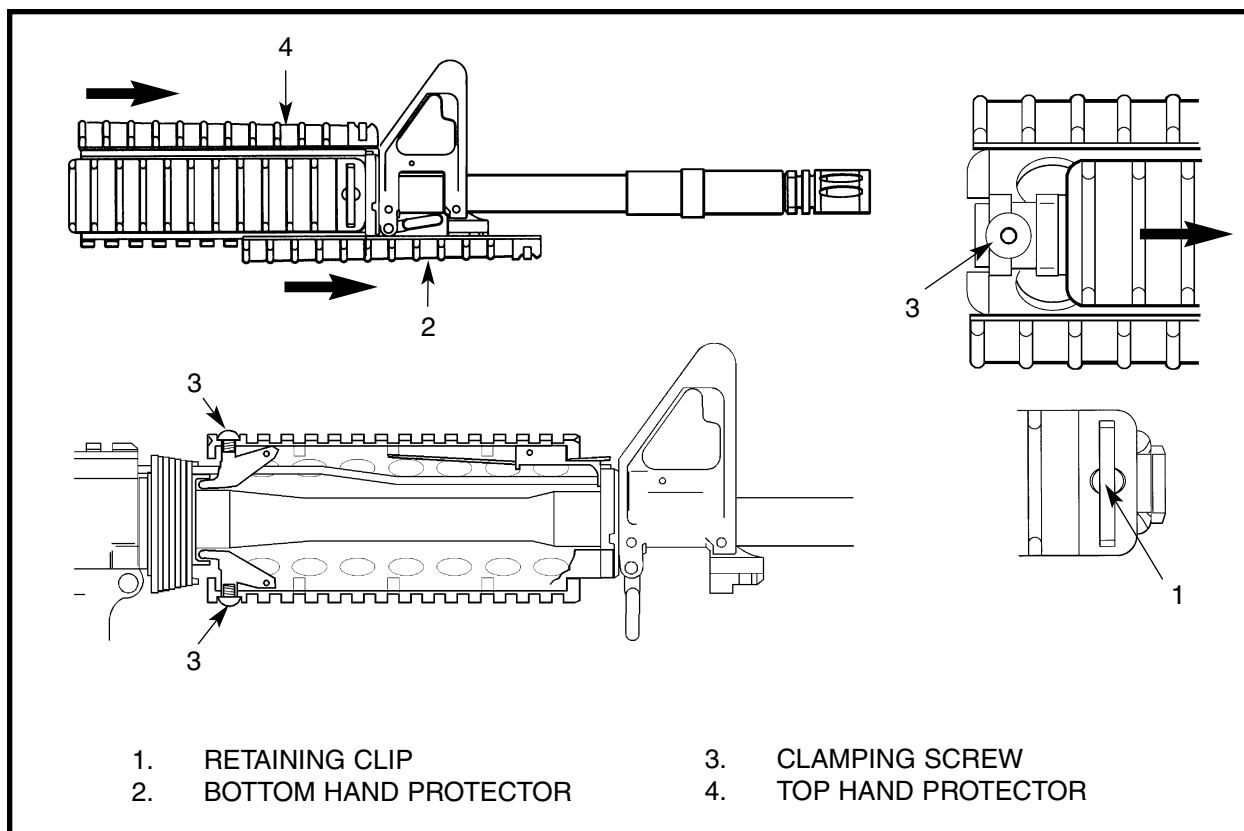

Figure 3-2-10 RAS
- b. Remove the RAS as follows. See Figure 3-2-10:
- (1) Press the retaining clip (1) and slide the top hand protector (4) forward;
- (2) Press the retaining clip (1) and slide the bottom hand protector (2) forward or remove it;
- (3) Remove the rear clamp screws (3);